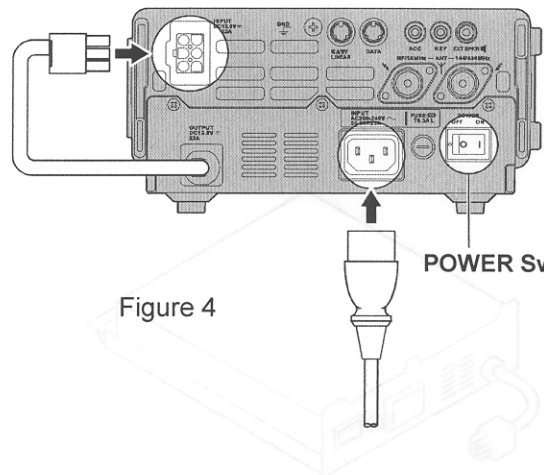

Figure 4
4. Connect the 6-pin Molex plug from the FP-30 to the INPUT jack on the rear panel of the FT-897 (Figure 4).